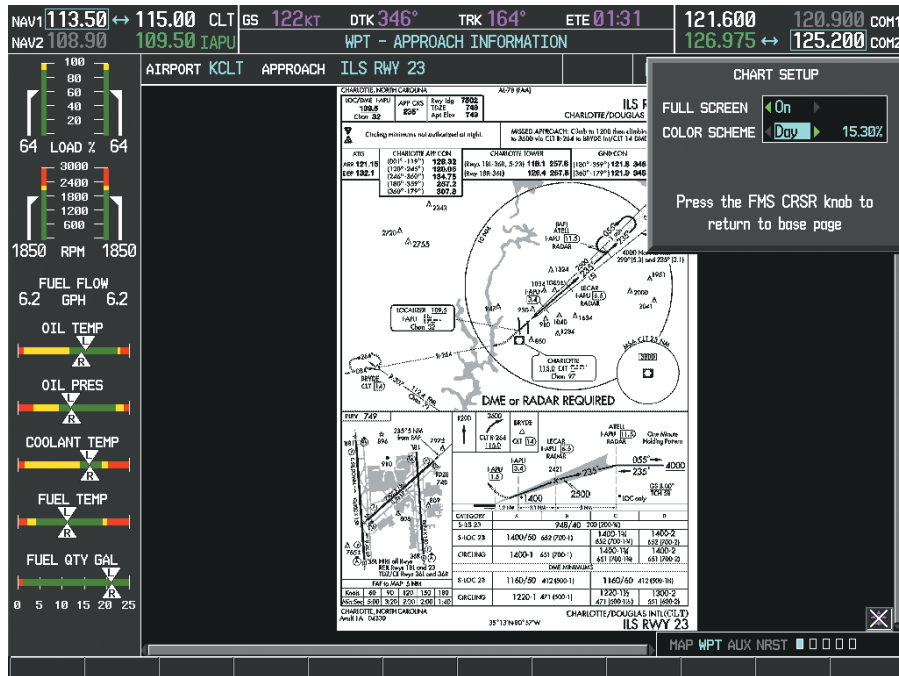

Figure 8-66 Approach Information Page, Day View
- 3) Turn the large **FMS** Knob to move to the COLOR SCHEME Option (Figure 8-66).